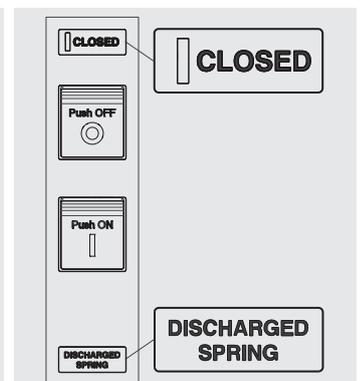

Figure 79
3. Circuit-breaker closed with springs discharged (see Figure 79).